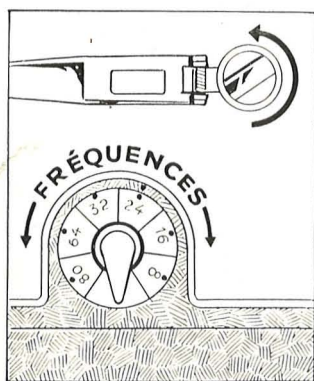

Fig. 4
To adjust the running speed, turn the variable speed indicator (16) so that the speed required is opposite the mark on the casing of the camera (fig. 4).